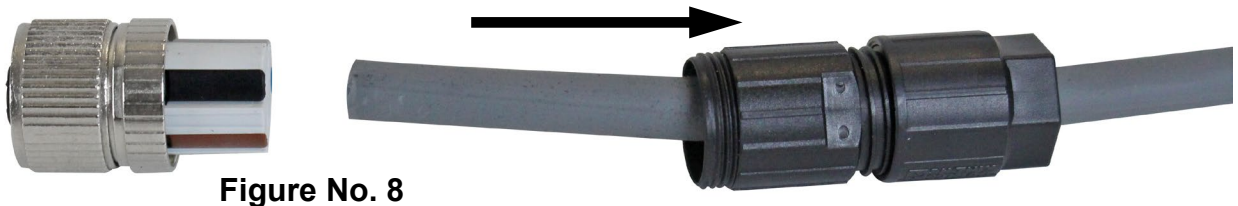

Figure No. 8
1. Disassemble the connector (unscrew the black plastic part of the connector from the metal part), and then slide the black plastic part onto the homerun cable. See Figure No. 8.